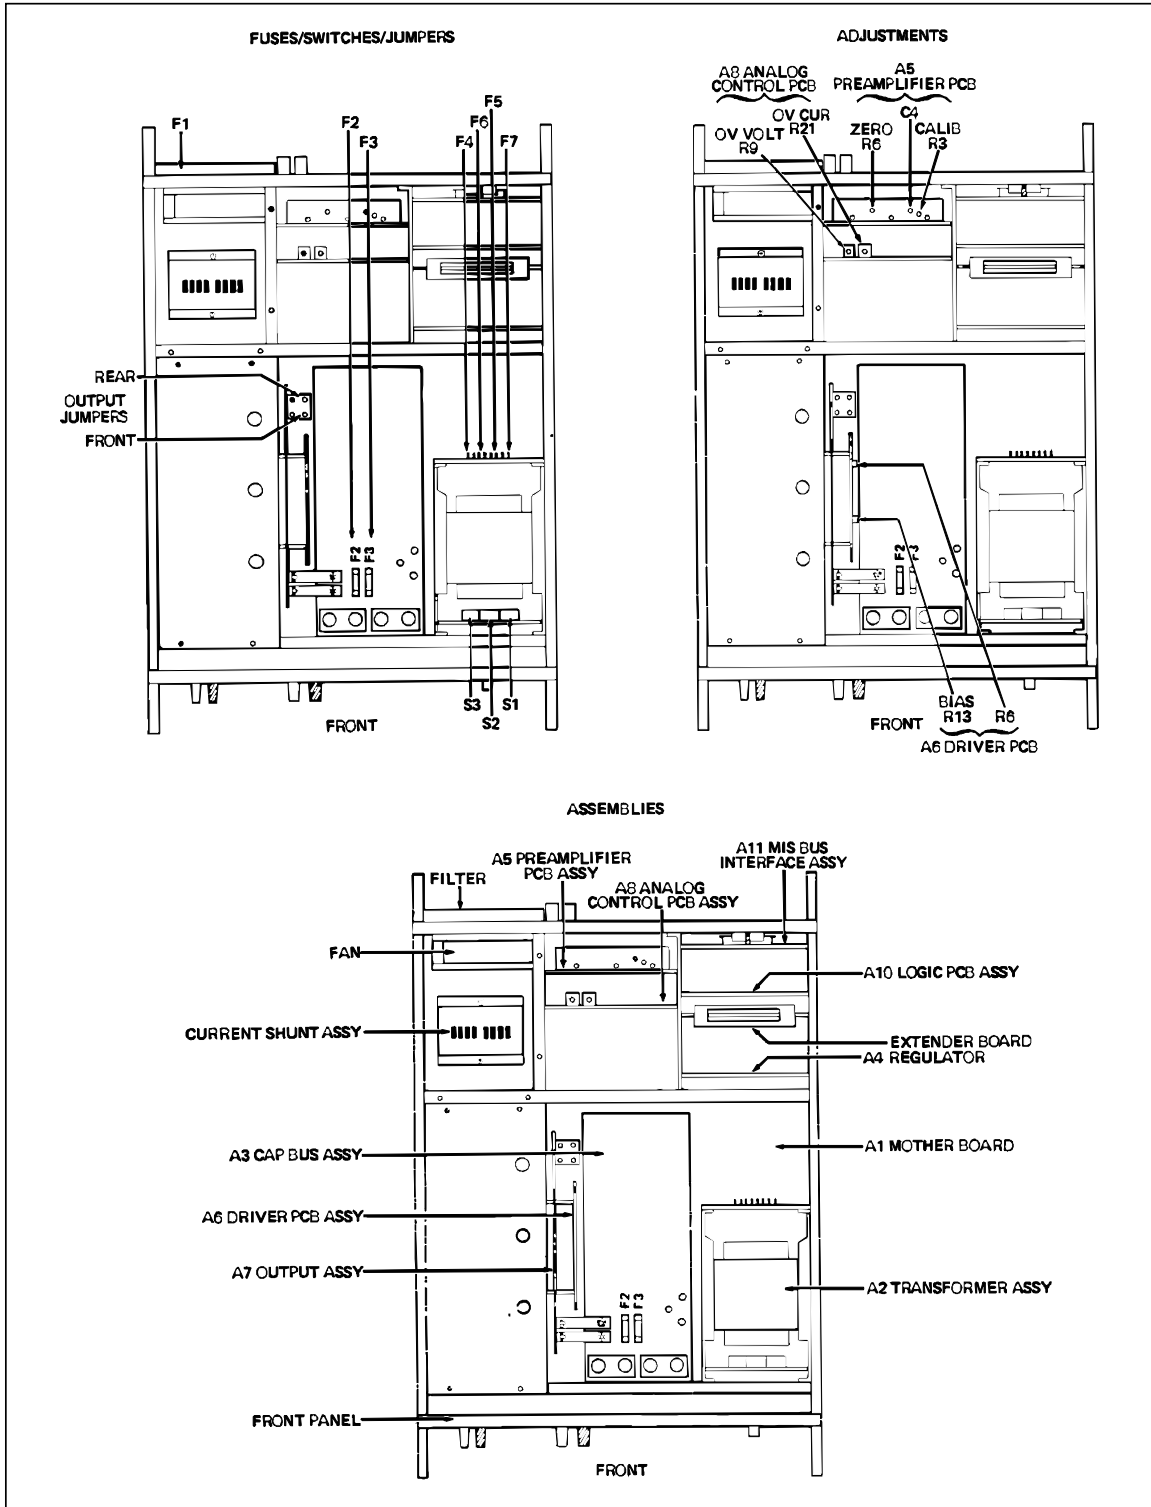

Figure 4-1. Internal Component/Assembly Locations
Reassembly of the instrument is accomplished by logically reversing the disassembly procedure. Before installing the top covers on the unit, make a visual comparison with Figure 4-1 to ensure the presence of all assemblies, jumpers, and fuses.
All internal switches, fuses, and calibration adjustments can be accessed by removing the top cover and the large inner cover from the 5220A. The location of each of the applicable components is shown in Figure 4-1. Procedures for setting, replacing, and/or adjusting these components are given later in this section of the manual.
There are six fuses located inside of the 5220A. Each is used to fuse one of the secondary windings of the power transformer. Four of the fuses are located on the A2 Transformer Assembly, and two are on the A3 Cap Bus. Their locations (F2 through F7) are shown in Figure 4-1. Use the following procedure when replacement is necessary:
3. With reference to Figure 4-1, locate and inspect fuses F2 through F7. The fuses are installed in fuse clips and can be pulled out using your fingers.
Either the front or rear output terminals (but not both simultaneously) may be selected to provide the current output connections. The active terminals are determined by the position of a pair of screws that serve as output jumpers. See Figure 4-1 for the output jumper (screw) locations. Installing the screws in the two holes marked FRONT enables the front CURRENT OUTPUT terminals. Similarly, installing the screws in the two holes marked REAR enables the rear output terminals. Use the following procedure to position the screws:
3. Locate the output jumper screws as shown in Figure 4-1.
The 5220A comes equipped with an extender board for servicing other 5220A PCB assemblies. A storage slot for the board is provided in the 5220A PCB assemblies. See Figure 4-1 for the storage location.